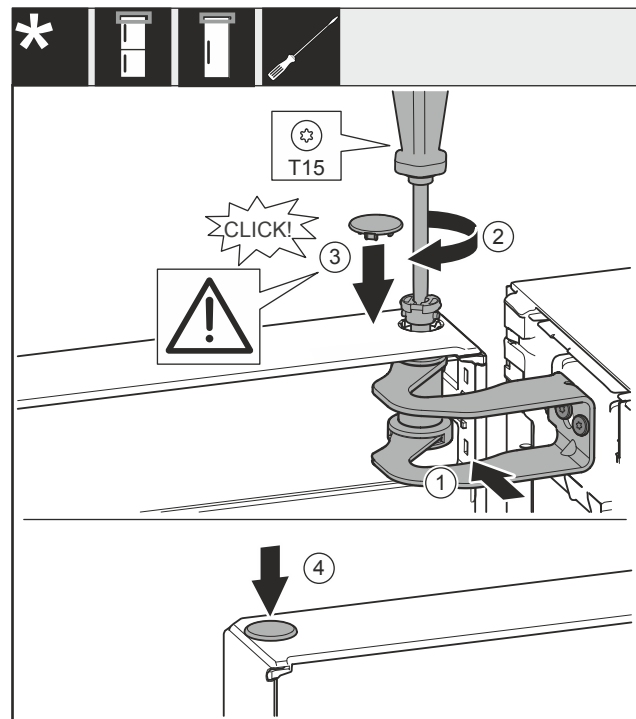

Fig. 24
- Align the door with the opening in the swap bearing block Fig. 24 (1).
- Insert the bolt Fig. 24 (2) and use screwdriver to tighten it.
- Insert the cover Fig. 24 (3).
- Check that the cover Fig. 24 (3) is resting on the door.
- Insert the cover Fig. 24 (4).